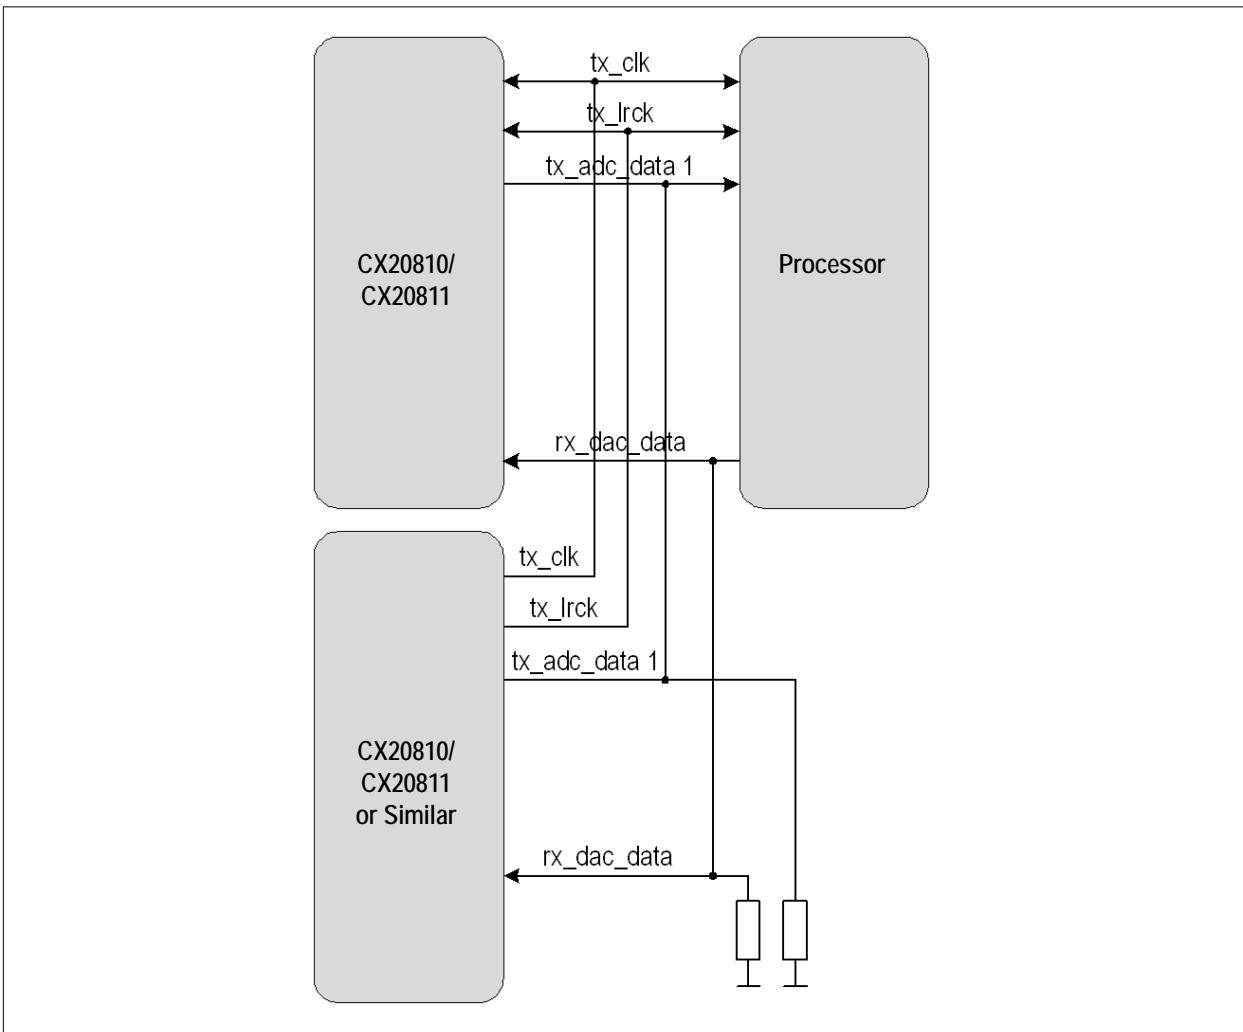

Figure 90: TDM with Other CODECs as the Master
- Figure 90 on page 145 provides the TDM with other CODECs as the master